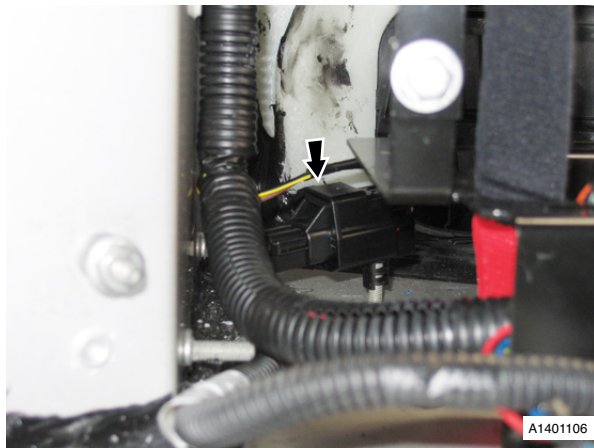

Fig. 1
9. Disconnect harness multiplug, battery conditioner (see Fig. 1).